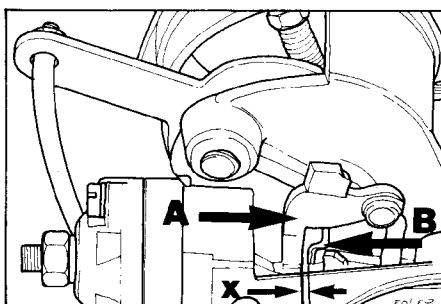

Fig. 6 Modulator spring adjustment
- Check clearance 'X' between modulator spring (B) and choke lever (A) using a drill of suitable diameter (Fig. 6).